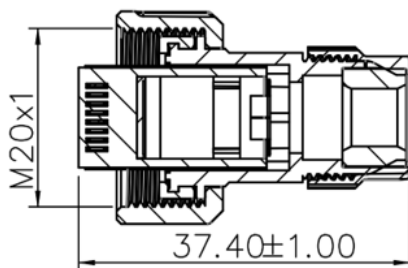

Figure 6-23 Press the RJ45 crystal head
Step 3: Press the RJ45 crystal head spring and push the crystal head into the connector slot, the crystal crown has a tight stop step, with dimensions shown in Figure 6-23.